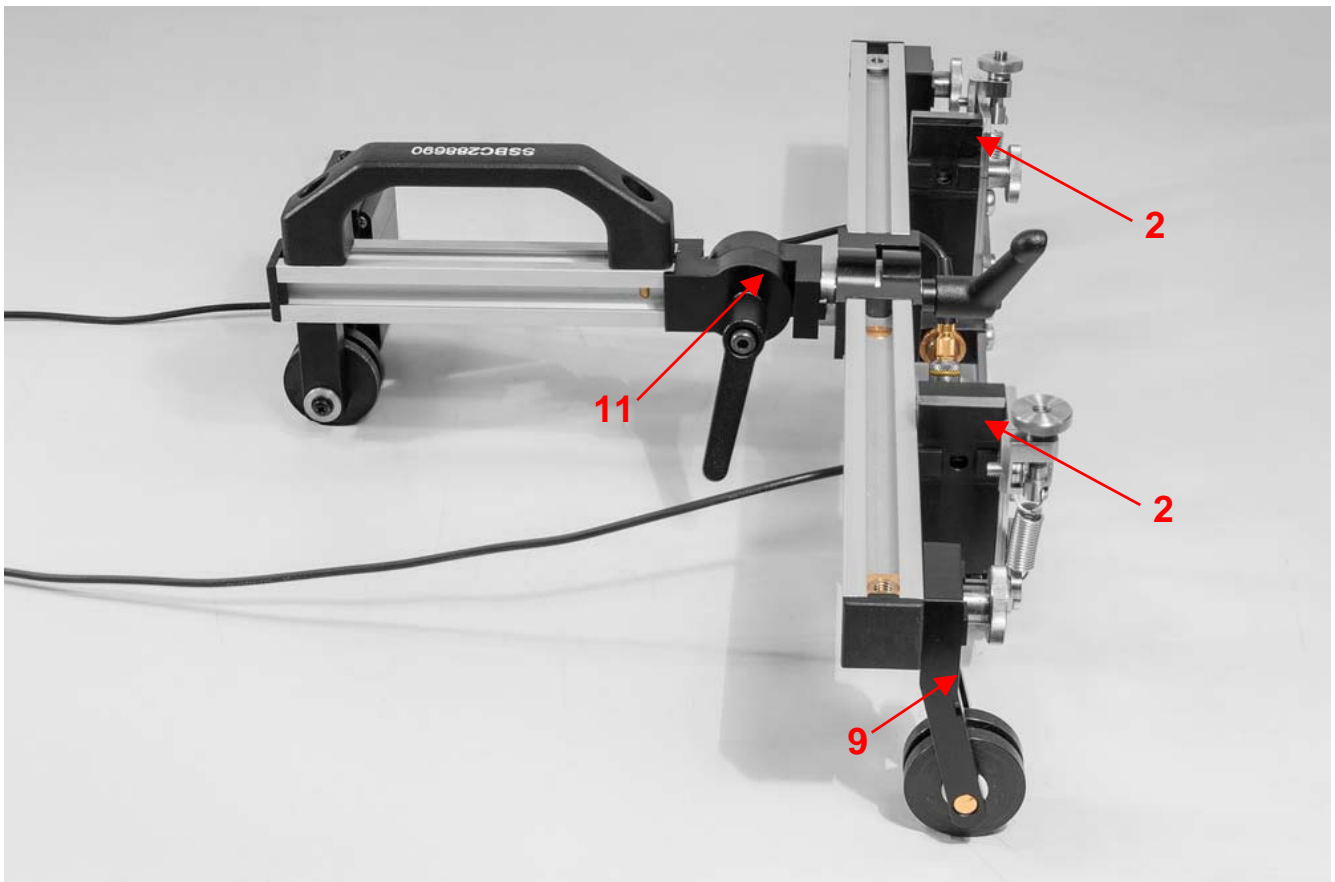

Fig. 3
4. Ensure that both left & right wheels [9] are installed on the same side of the rail as the Probe-holders as it is shown on the Fig.3
5. Adjust Joint [11] to set Probe-holders at rectangle to the scanning surface as it is shown on the Fig.3